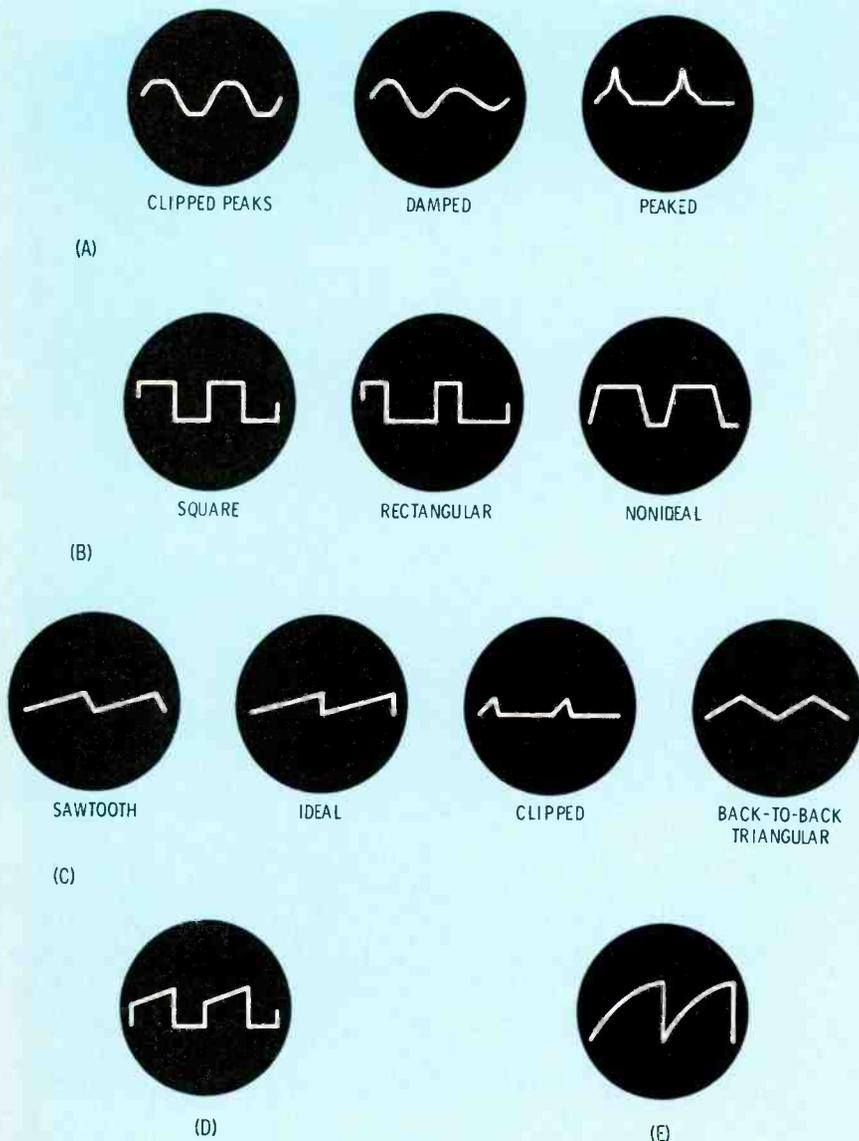

Fig. 14 Basic waveforms.
A familiar exponential wave (E) appears among the basic waveforms illustrated in Fig. 14. In various situations, complex waveforms are analyzed to best advantage as combinations of exponential waves. For example, it is much easier to evaluate a sync-pulse waveform in terms of exponential waves than in terms of sine waves. Fig. 15 shows a series RC circuit energized by DC voltage through an on and short-circuit switch. Voltage e_R is called a differentiated waveform, and voltage e_C is called an integrated waveform.